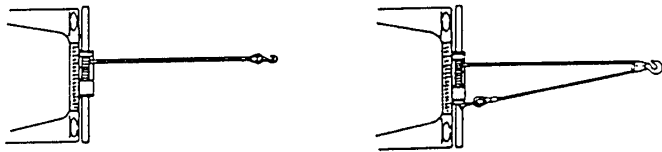

Fig. 2 Single Line
1. The X6CD is rated at 6,000 pounds (2,271 Kg) (single line) capacity on the wire rope layer closest to the drum. **DO NOT OVERLOAD. DO NOT ATTEMPT PROLONGED PULLS AT HEAVY LOADS.** Do not maintain power to the winch if the motor stalls. Overloads can damage the winch and/or the wire rope and create unsafe operating conditions. FOR LOADS OVER 4,000 POUNDS (1,814 Kg), **WE RECOMMEND THE USE OF THE OPTIONAL PULLEY BLOCK AND SHACKLE TO DOUBLE LINE THE WIRE ROPE** (See Figures 2 & 17). This reduces the load on the winch and the strain on the wire rope by approximately 50%. If attaching back to vehicle, attach to the frame or other load bearing part. The vehicle engine should be running during winch operation to minimize battery drain and maximize winch power and speed. If considerable winching is performed with the engine off, the battery may be too weak to restart the engine.